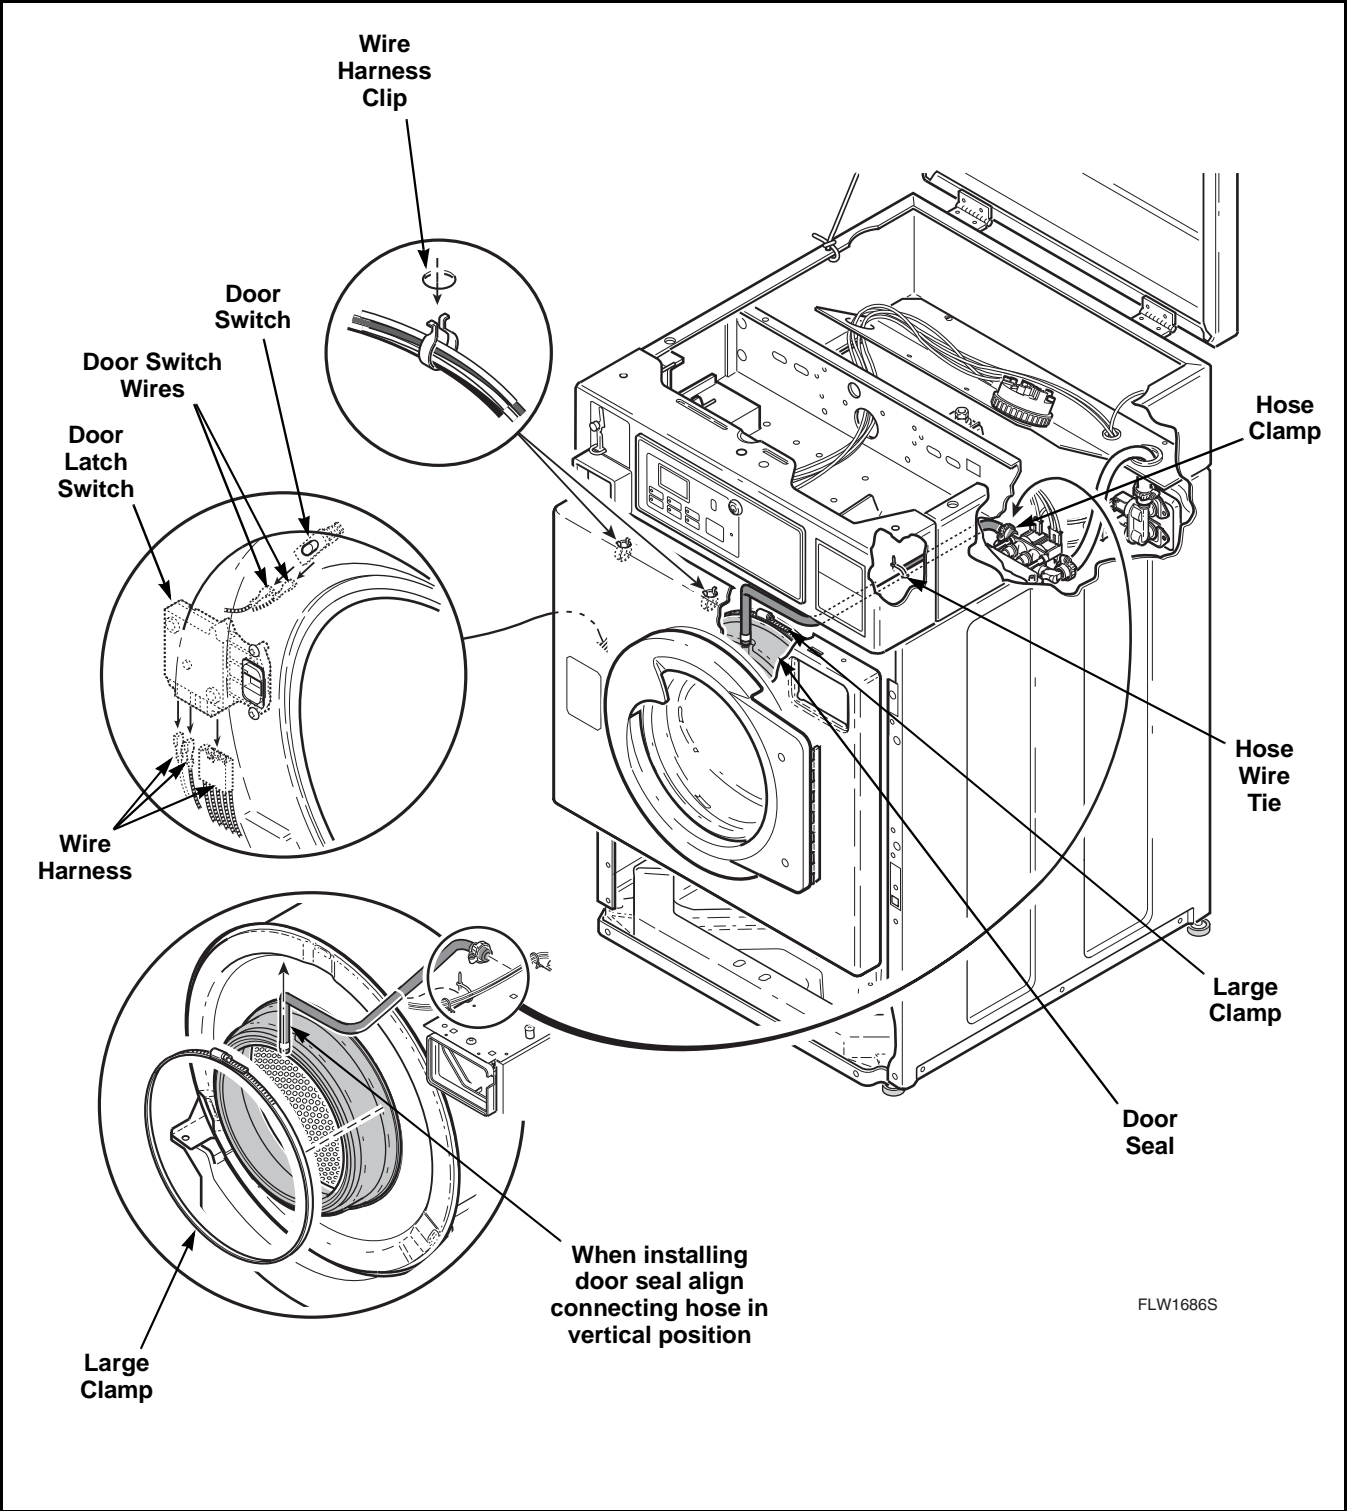

Figure 43
- j. Unplug wire harness from both the door latch switch and from the door switch. Refer to *Figure 43*. Remove clips holding wire harness and door seal hose along top flange of front panel and remove front panel.
NOTE: Door seal hose and wire harness must be reinstalled in the appropriate clips and holes along top flange of front panel. Refer to *Figure 43*.
- i. Unplug wire harness from both the door latch switch and from the door switch. Refer to *Figure 43*. Remove clips holding wire harness and door seal hose along top flange of front panel and remove front panel.
NOTE: The large wire clip holds both the wire harnesses and the door seal hose. Refer to *Figure 43*.
- l. Loosen hose clamp and remove dispenser valve-to-door seal hose connection at the dispenser. Refer to *Figure 43*.
- m. Loosen large clamp holding door seal to front of outer tub. Carefully pull seal off front lip of outer tub front panel and remove door seal and hose. Refer to *Figure 43*.
- f. Reach up between door seal and front panel. Refer to *Figure 43*. Press in on switch locking tabs and push switch out through front panel only far enough to allow removal of wires from switch terminals.
- f. While supporting door lock from the back (through door opening), remove two Phillips head screws holding door latch switch to front panel. Refer to *Figure 43*.
- g. Gently pull door lock out through door opening. Remove door lock only far enough to disconnect harness connector from door lock. Refer to *Figure 43*.